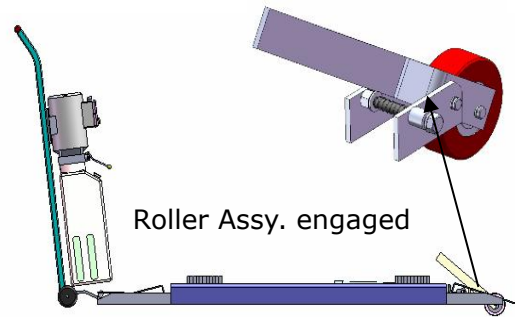

**Fig.15**
3. To lower lift: Press the button UP, until the safety lock is in the released position (**See Fig.15**), lower lift by pushing lowering handle.